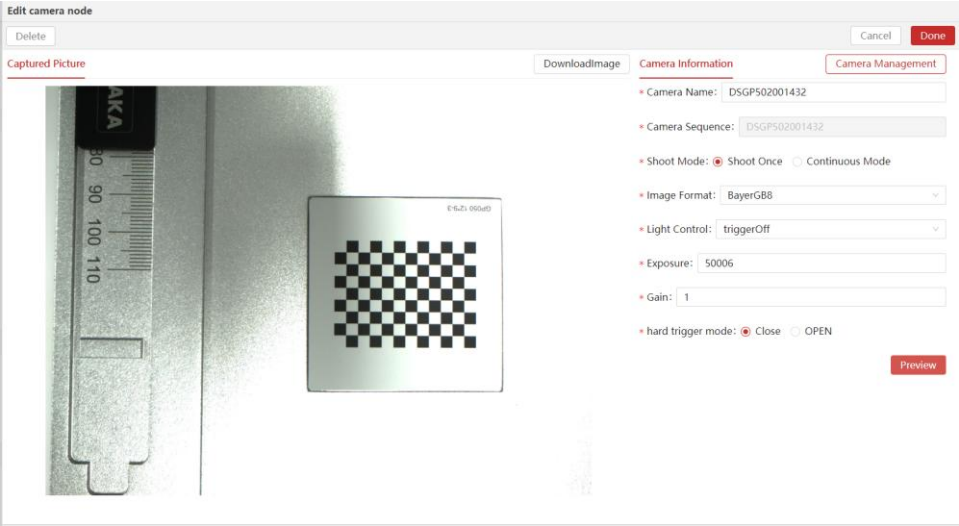

Figure 4.1-3
3) Remove the top board of the education kit, place the calibration board in the center of the field of view, adjust the camera exposure and gain, and click [Finish] to save the settings after obtaining an image with appropriate brightness. As shown in Figure 4.1-3.